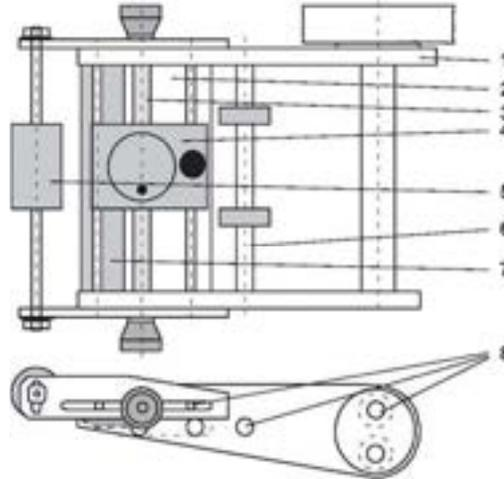

Fig. 18: Changing the mirror
Undo the seven screws (8) on the outer applicator lever plate (1). (see Fig. 18)